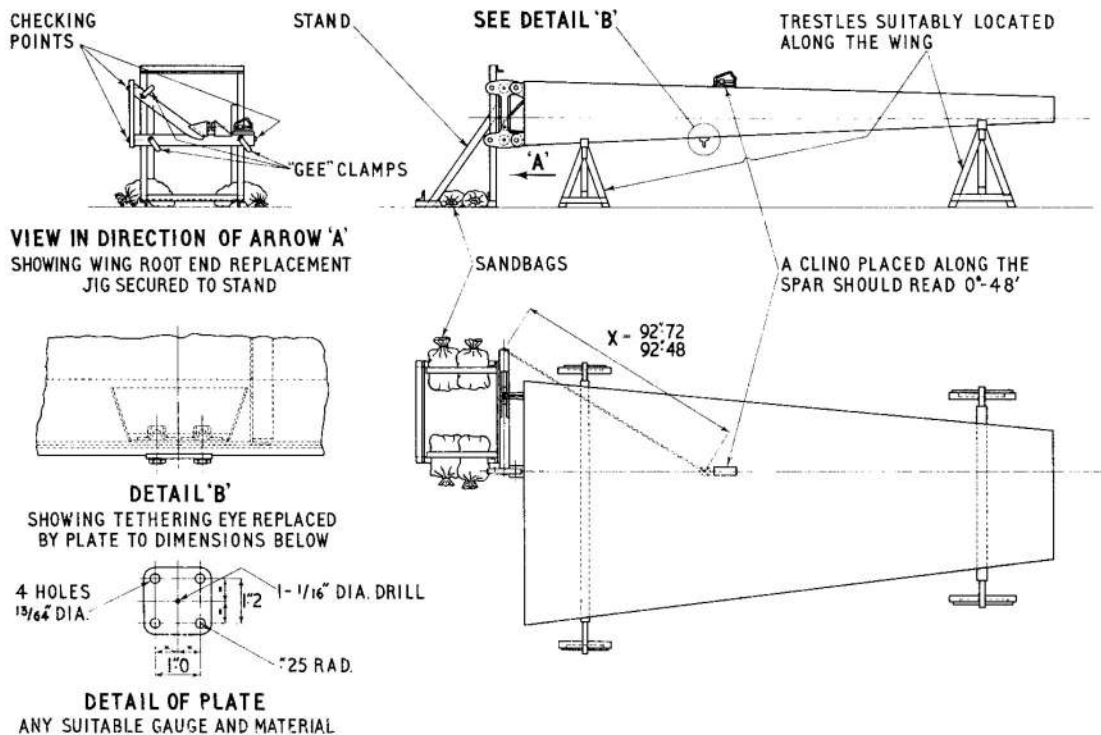
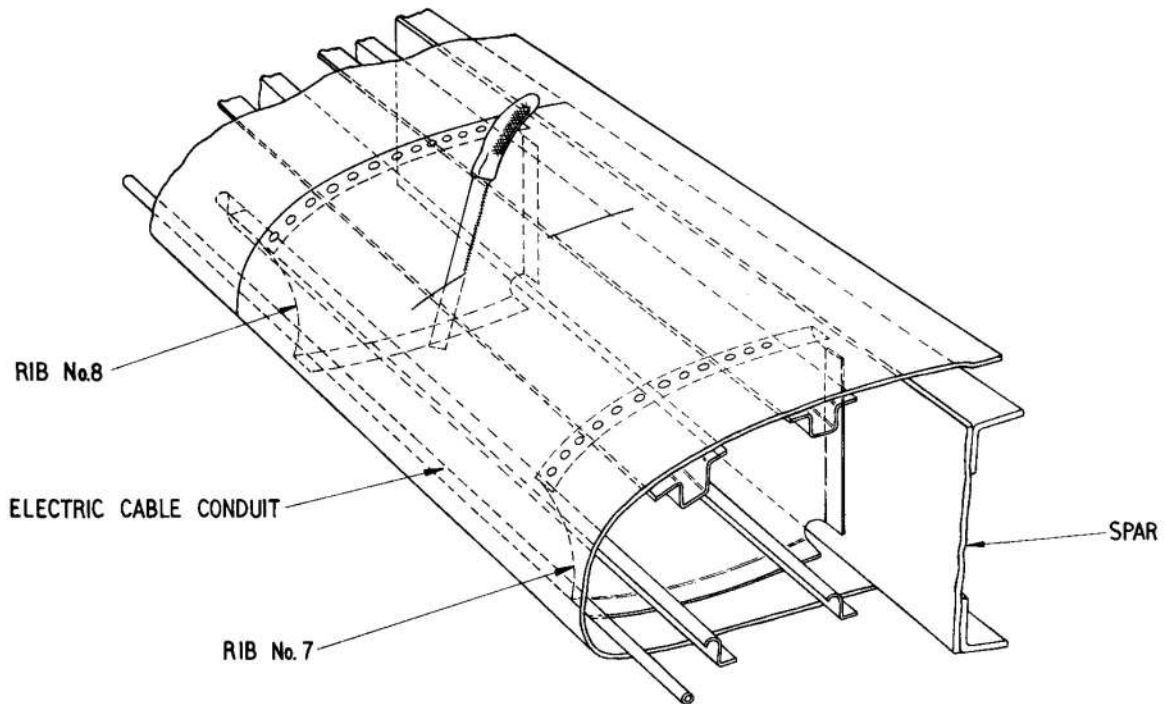

Fig. 1. Trestling and checking methods
Fig.2. Cutting stringers
1. (1) Trestle the wing as shown in fig. 1.
(2) Remove the fabric from the root end to a point somewhere between rib No. 8 and No. 9.
(3) Disconnect outer ends of electrical cables in conduit in leading edge, pull cables clear and cut locally through skin to sever top and bottom stringers and the conduit midway between stations No. 70 and 80 (fig. 2).
(4) Detach skin from rib at station No. 80 and from stringer portions between stations 75 and 80.
(5) Detach ribs from spar web from station No. 70 to root.
(6) Detach skins from spar flanges from station No. 80 to root.
(7) Remove root end of "D" nose.
(8) Bell the end of the conduit left in the main plane and detach remaining half of joint strap from end of top stringer next to spar.
(2) Set up jig (part No. RC1. W113) as shown in fig. 1.
(3) Trim outer edge of skin as necessary to allow main and front spars to pick up in jig and satisfy diagonal check dimensions (para. 3).
(4) Pull back ribs to fit flush against the spar web.
Method of using checking jig (fig. 1) 3. (1) Support the main plane on trestles kept rigidly in position with sand bags. A clinometer set along the spar should read 48 minutes.
(2) Secure the wing root jig RC.1. W.113 vertically by use of 'G' clamps and verify a reading of the clinometer suitably mounted on the platform provided as 0 deg.
(3) In this position the wing can be offered up to the jig and checked for alignment as follows :- Drop plumb lines through the checking points at the ends of the jig and another from the tethering point on the underside of the wing. The tethering eye should be replaced by a suitable plate holed in the centre through which the plumb line should pass.
(4) The dimension 'X' between the forward checking point on the jig and the tethering point should be within the limits shown (fig. 1).